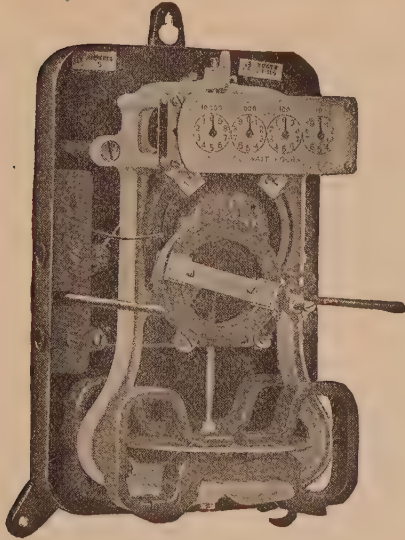
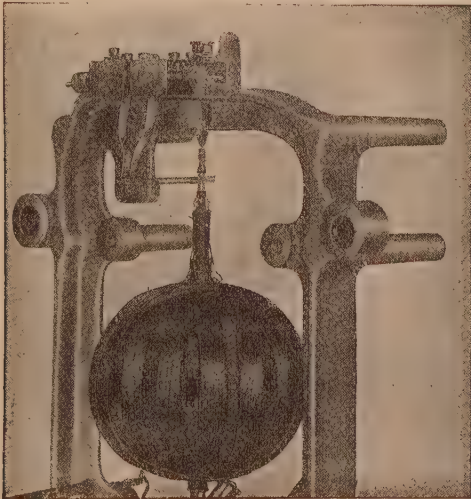
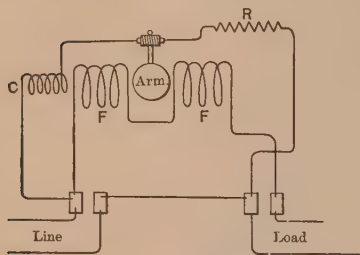

FIG. 220. Interior of G. E. Thomson watt-hour meter.
FIG. 221. Armature of the General Electric watt-hour meter.
FIG. 222. Watt-hour meter connected to line to measure power consumed by a customer.
**128. Watt-hour Meters.** As explained in Chapter IV, the instrument with which we measure the amount of electrical energy used by a customer is the watt-hour meter, illustrated in Fig. 220. It is really a small motor, the armature of which, Fig. 221, is connected in series with a resistance  $S$ , Fig. 222, directly across the line. The current in the armature then is proportional to the voltage of the line. The field coils carry the current delivered to the customer, thus the armature tends to turn with a force, or a torque, that is proportional to the watts, that is, volts  $\times$  amperes.
As the friction is almost nothing, the speed would immediately rise to a dangerous value, if there were not a retarding device attached to the armature. This is in the form of an aluminum disk, shown near the bottom of Fig. 220. As the armature revolves, this disk rotates between the poles of four permanent magnets, and electric currents are
to the torque tending to rotate the armature. The rate of rotation at any instant is then proportional to the watts being delivered. It is necessary only to gear the armature to some recording mechanism, like that shown in Fig. 220, to make it register watt-hours, or, as it is usually arranged, kilowatt-hours.
Fig. 222 shows this watt meter connected to a two-wire system. For simplicity, the aluminum disk is omitted. Note that the two field coils are in series, and that all the current taken by the customer passes through them. The armature is placed across the line. The coil *C* is added to increase the field enough to overcome the friction and carries a practically constant current. By moving this coil nearer to the armature, or further away, it can be made exactly to compensate for the friction.